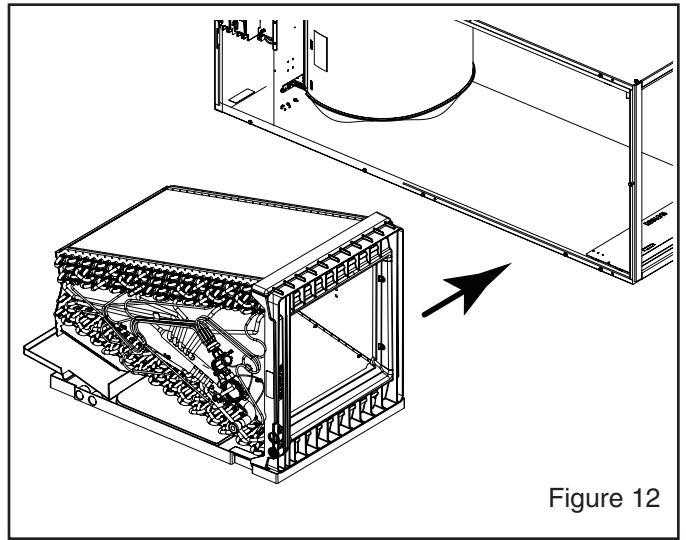

Figure 12
1. Attach the horizontal drain pan with extension to the replacement coil and slide the assembly into the unit. See Figure 12.